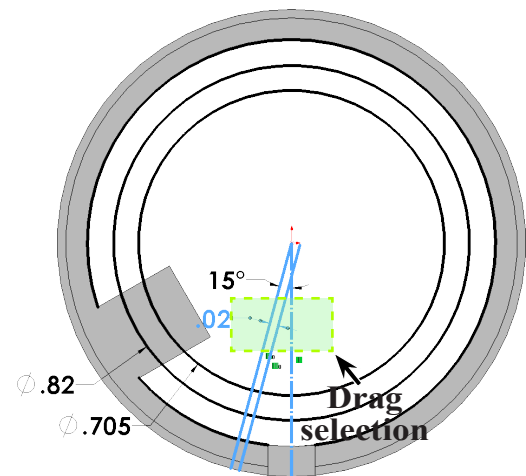

Fig. 89
Step 14. Drag a “trend to left - more liberal” selection across all radii, **Fig. 89**.